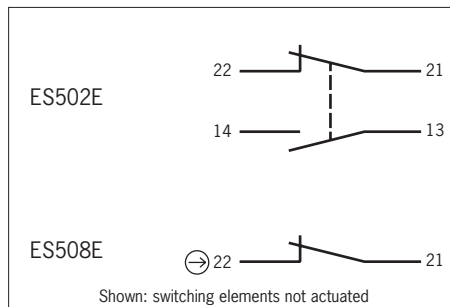

Figure 1: Switching elements and terminal assignment
- ▶ For terminal assignment see Figure 1